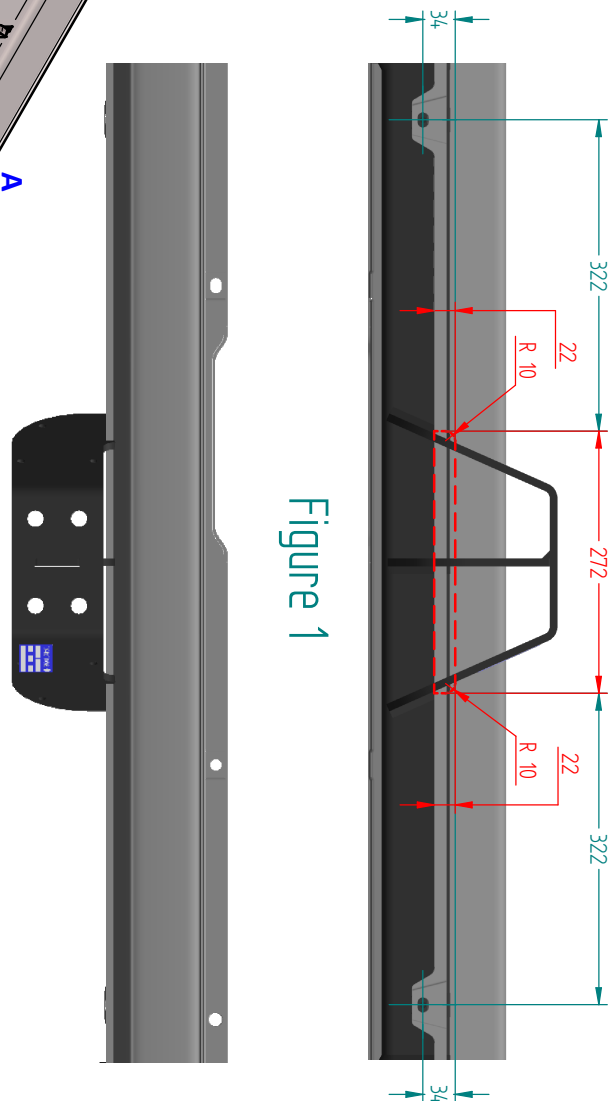

Figure 1
6. Models without the pre-cut slots cut the bumper using **Figure 1** as a guide.